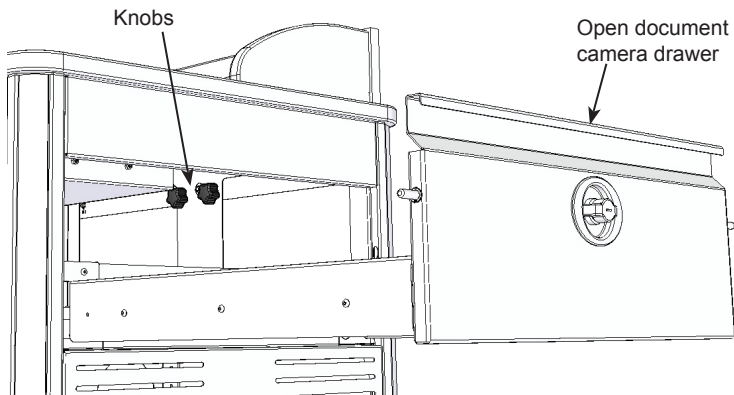

Figure 2A
1. To remove the panel, open the document camera drawer fully. **Figure 2A.**